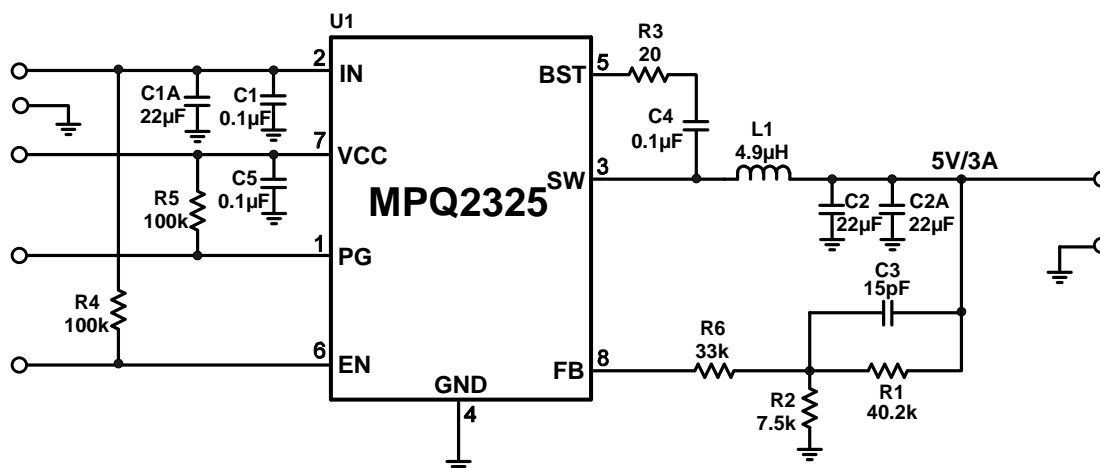

Figure 8: $V_o = 5V$, $I_o = 3A$
- 6) The recommended layout is based on Figure 8 in the Typical Application Circuit section on page 15.
The detailed application schematics are shown in Figure 8 through Figure 13. The typical performance and circuit waveforms are shown in the Typical Performance Characteristics section. For more device applications, please refer to the related evaluation board datasheets.